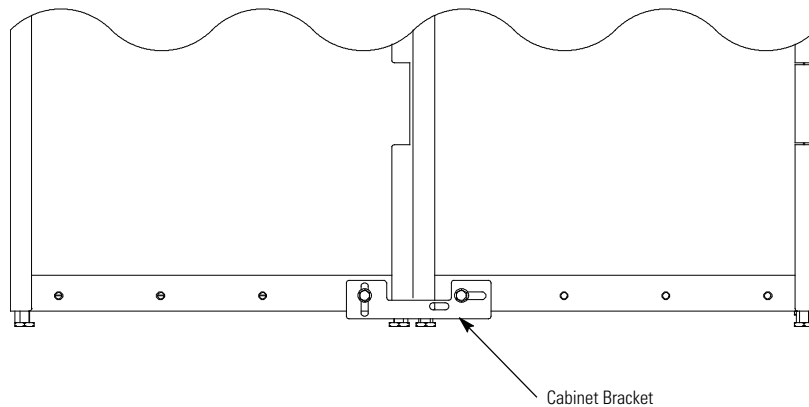

Figure 4-4. Cabinet Bracket
18. Install cabinet bracket between the IAC-D and the UPS (see Figure 4-4).
18. Install cabinet bracket between the IAC-D and the adjacent UPS (see Figure 4-4).